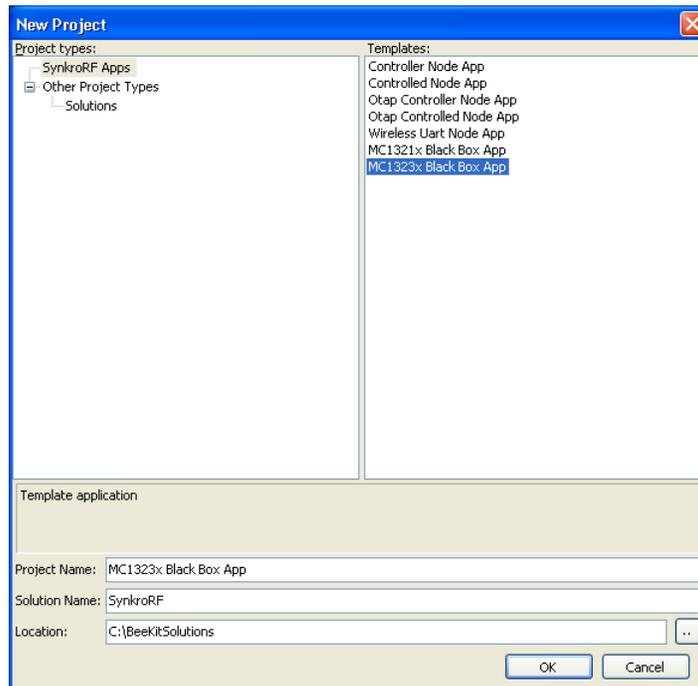

Figure 6-1. BeeKit New Project Window
3. From the menu, select File->New Project... The New Project window appears as shown in Figure 6-1.
4. From the left side of the New Project, select SynkroRF Apps (Figure 6-1).